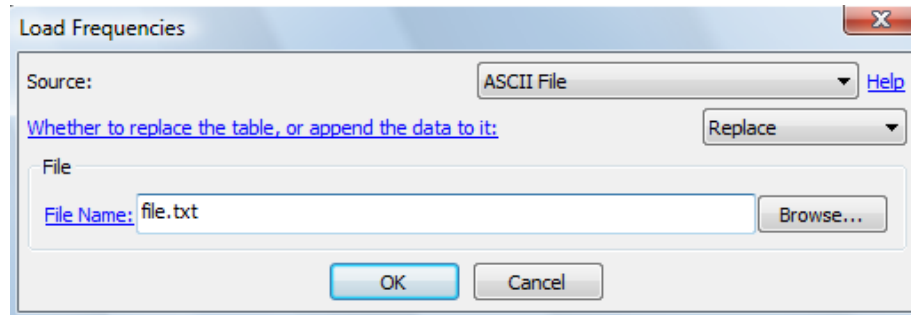

Figure 7.18 Load frequencies from an ASCII file window.
7.2.2.2. ASCII File Analysis frequencies could be loaded from an *ASCII* file using this option (Figure 7.18). The components in the file should be separated by commas, tabs or spaces. Each line in the *ASCII* file represents one frequency range. A line may contain at the most three columns; the first column represents **Start(Hz)** frequency, the second represents **Delta(Hz)**, and the third represents **No.Freqs.**. If a row contains only one column, the value is accepted as the **Start** frequency and the other values are set to the default values, that is, **Delta=0.0** and **No.Freqs=1**.